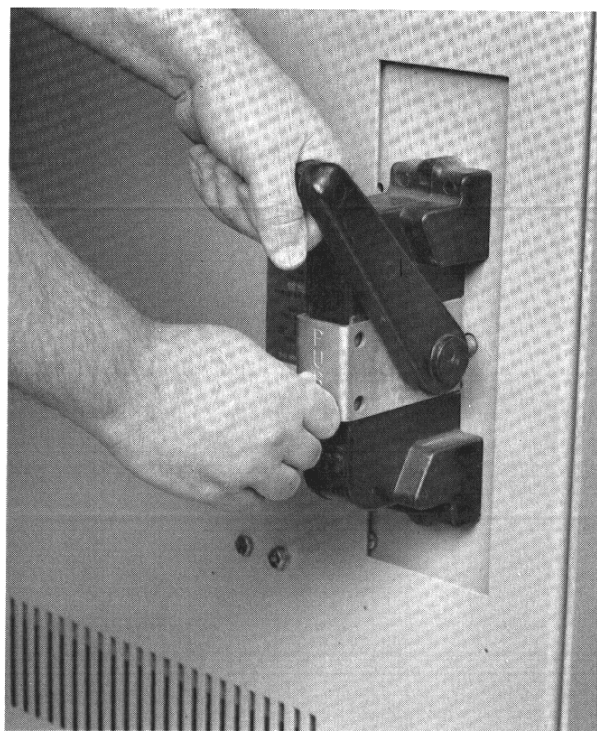

Figure 23-2. Place isolator handle in the OFF position by depressing pusher bar and pulling handle down.
1. Move the manual isolater handle to the OFF position. Refer to the nameplate attached to the high-voltage door near the handle. Figure 23-2 shows the method of first depressing the pusher with one hand and moving the handle with the other. Refer to page 29 for normal and emergency door opening procedures.